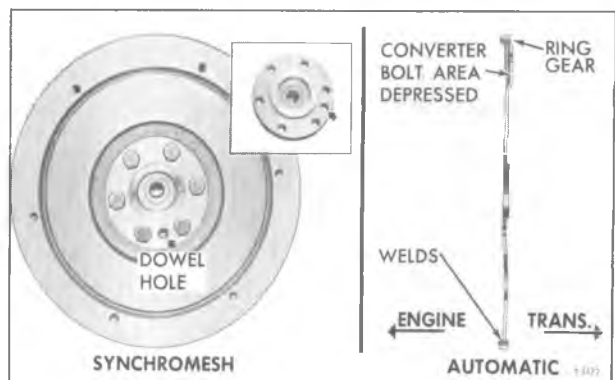

Figure 30—Flywheel Installation (Typical)
2. Clean mating surfaces on flywheel and crankshaft, then place flywheel at crankshaft and install bolts. Tighten bolts to 60 foot-pounds. Figure 30 shows flywheel installation views. Install clutch parts (if used) and install transmission.